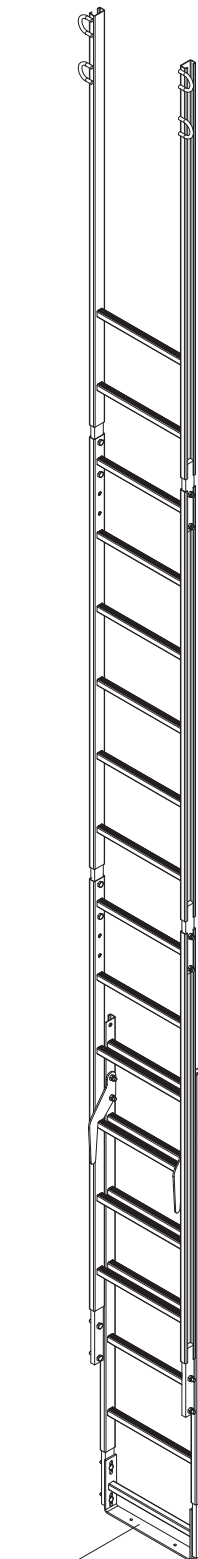

Fig. D3.04
- Attach the two ladder hooks of the to-be mounted Ladder 180/6 (65) on the rungs of the bottom ladder (65) and pull downwards. (Fig. D3.04)
(Fig. D3.04)